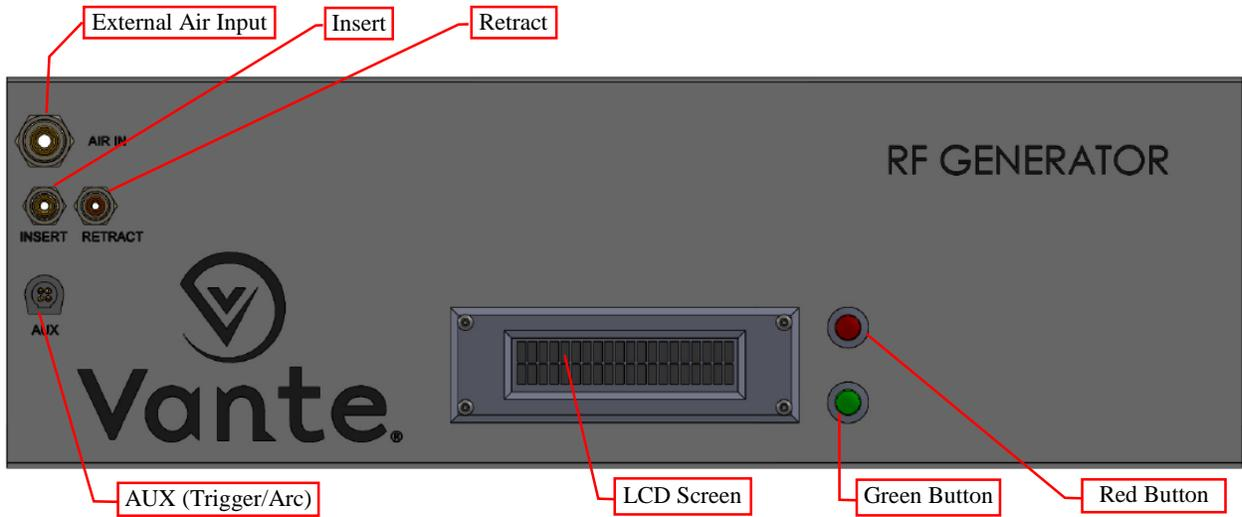

Figure 2.1 3800 RF generator, front view
- Connect the external airline, to the AIR IN port on the generator. See figure 2.1.
- Connect the air lines from the handheld sealer to the INSERT and RETRACT ports on the generator. See Figure 2.1
- 2.3.3. Connect the 4-pin plastic connector on the control cable assembly from the sealing head to the RF generator’s AUX port. See Figure 2.1.